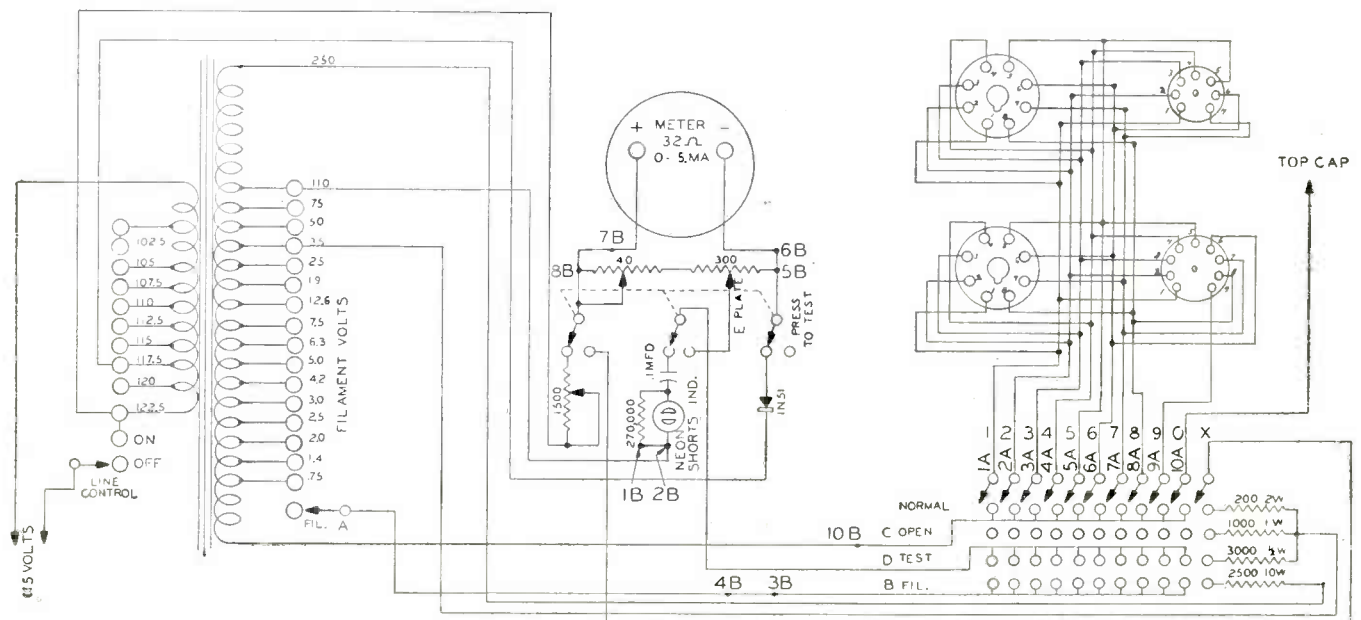

Fig. 3—Circuit diagram of Jackson Model 49 tube tester.
The basic unit is the Jackson Model 49 Tube Tester, a photograph of which is shown in Fig. 1. A schematic of the unit is shown in Fig. 3. A study of this schematic will show that this is a conventional type of tube tester equipped to handle the testing of all tubes encountered in ordinary every day servicing. By eliminating all the circuitry so frequently found in tube testers for the purpose of making special tests, the manufacturer has been able to produce a basic low cost, portable, unit with high utility value, since it can cope with the vast majority of tube testing problems encountered in the serviceman's daily routine.
1. In Fig. 3, the wires connecting points 1B with 2B, 3B with 4B, 5B with 6B, and 7B with 8B are clipped out, leaving open circuits at these points. A drawing is supplied to identify these points easily.
Thus the yellow-red lead in Fig. 4 is indicated as going to point 1B. This point is identified in the same way, 1B, in Fig. 3, the schematic of the basic unit.